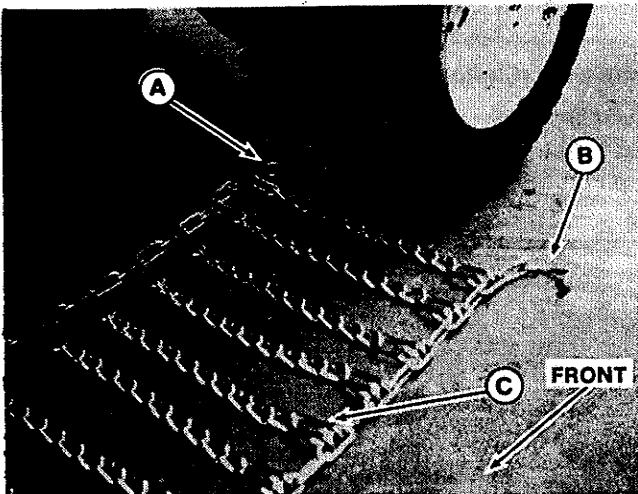

Figure 27
1. Lay the chain out in front of the tire with the "quick hook" (A, figure 27) and "fastener" (B) to the rear as shown. The quick hook must be on the inside and the fastener on the outside. The open sides of the cross chains must be down.